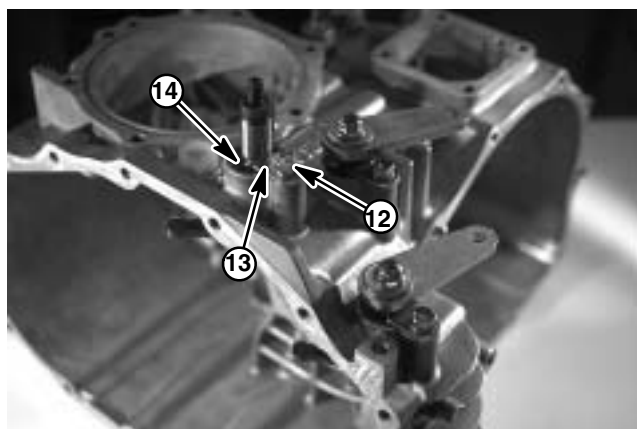

Figure 39
C. Loosen cap screws (Fig. 39, Item 12) and remove keeper plates (Item 13).